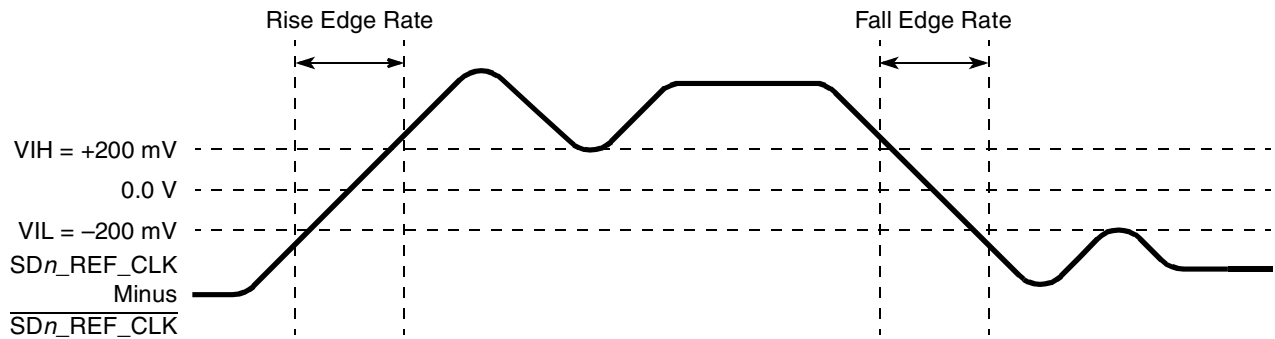

Figure 60. Differential Measurement Points for Rise and Fall Time
The differential waveform is constructed by subtracting the inverting signal ($\overline{SDn_TX}$, for example) from the non-inverting signal (SDn_TX , for example) within a differential pair. There is only one signal trace curve in a differential waveform. The voltage represented in the differential waveform is not referenced to ground. Refer to Figure 60 as an example for differential waveform.
3. Measured from -200 mV to +200 mV on the differential waveform (derived from SDn_REF_CLK minus SDn_REF_CLK). The signal must be monotonic through the measurement region for rise and fall time. The 400 mV measurement window is centered on the differential zero crossing. See Figure 60.